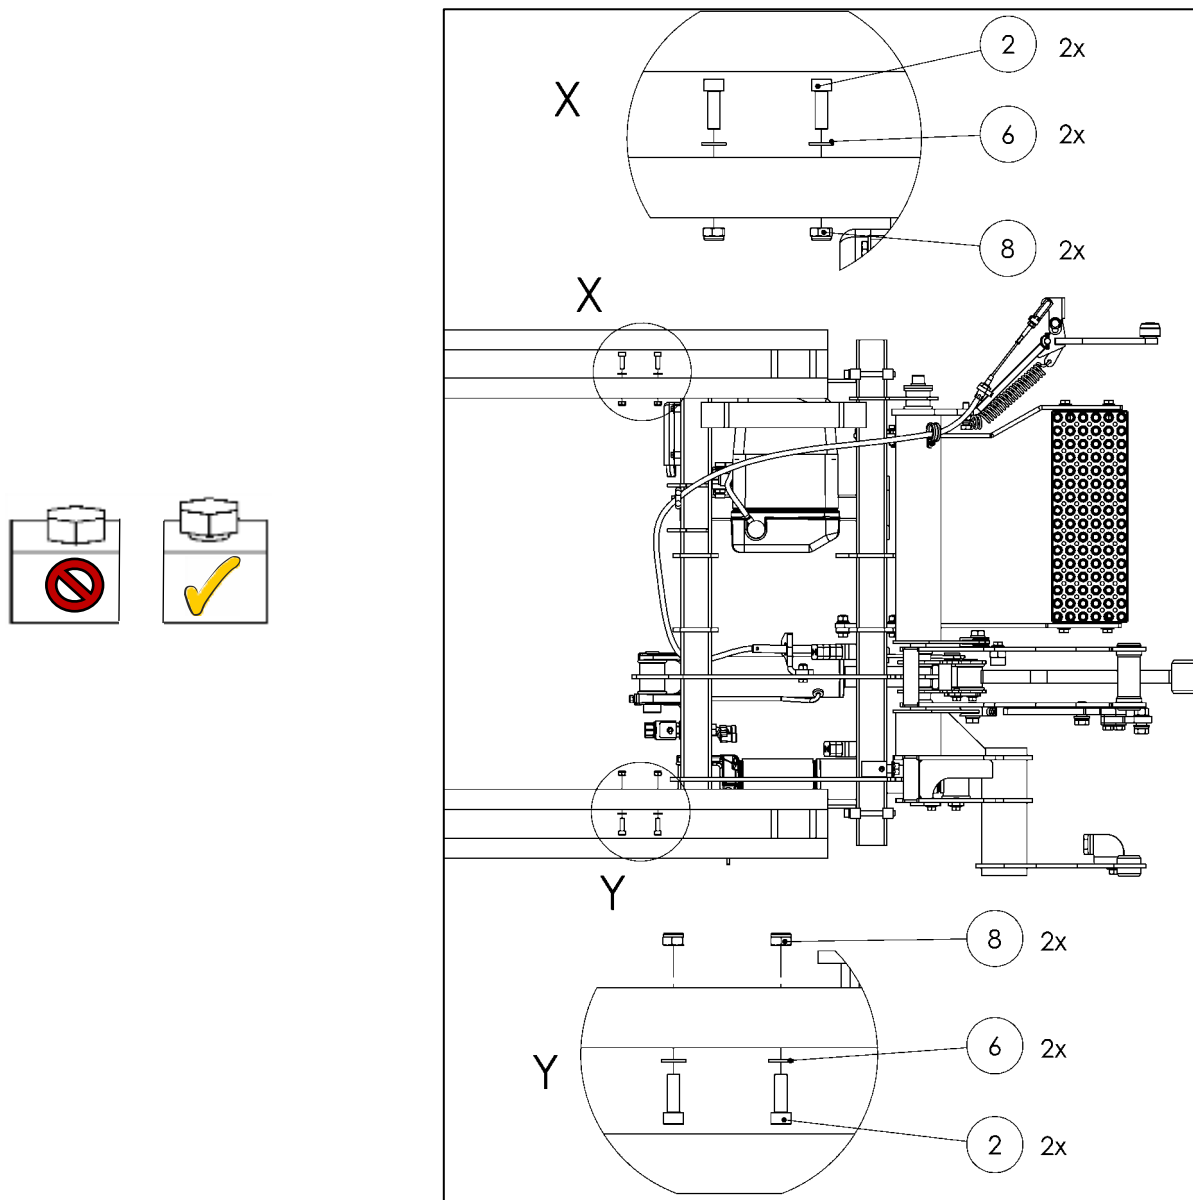

Fig. 28
- Insert the front bolts (**installation adapter kit – Part No. 22 911 217 or 22 911 235**) as viewed in the forward direction of travel and tighten until hand-tight as shown in Fig. 28.